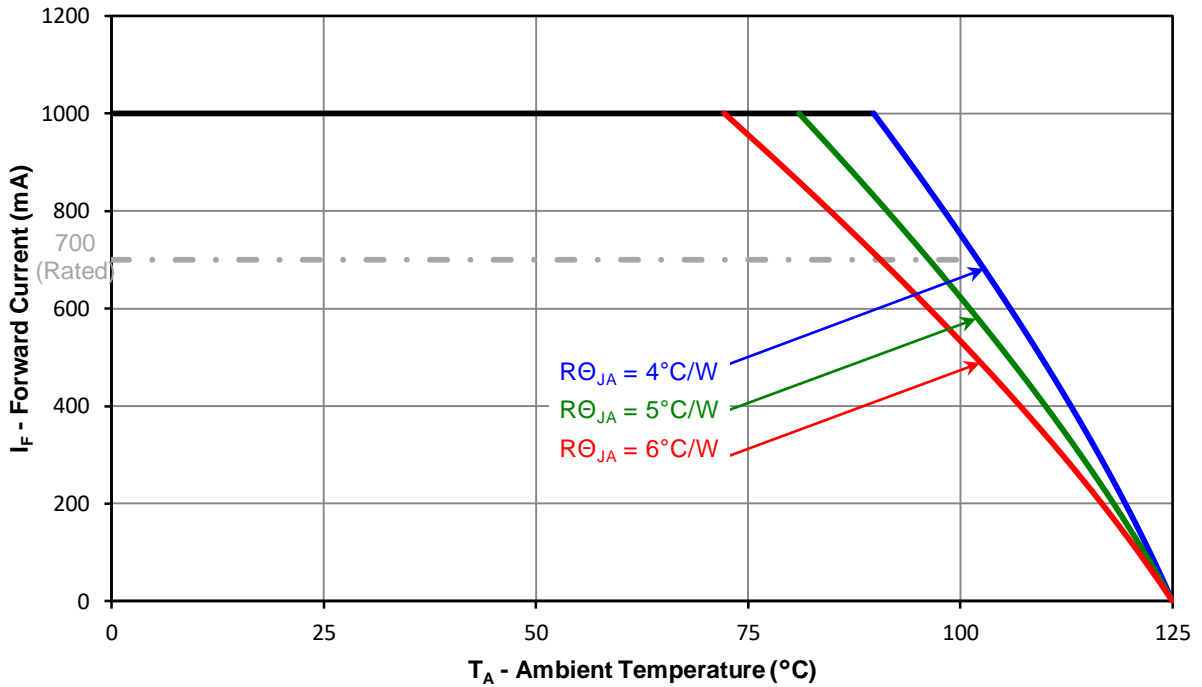

Figure 10: Maximum forward current vs. ambient temperature based on  $T_{J(MAX)} = 125^{\circ}C$
- Maximum DC forward current (per die) is determined by the overall thermal resistance and ambient temperature. Follow the curves in Figure 10 for current derating.
Notes for Figure 10: